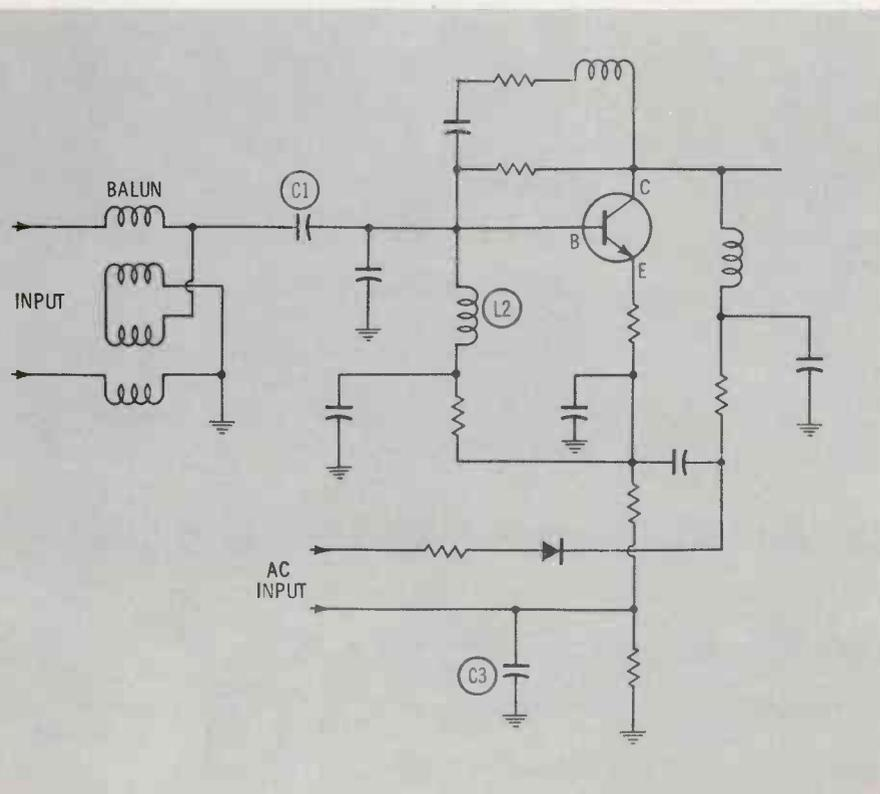

Fig. 4—High-pass filter, consisting of C1 and L2, blocks low-frequency components of lightning pulse.
Another method of lightning protection is illustrated in Fig. 4. This method is designed to take advantage of the fact that the major portion of the energy generated by lightning is concentrated in the lower ranges of the frequency spectrum, as shown in Fig. 1.
**Front Panel Controls (see Fig. 4)**